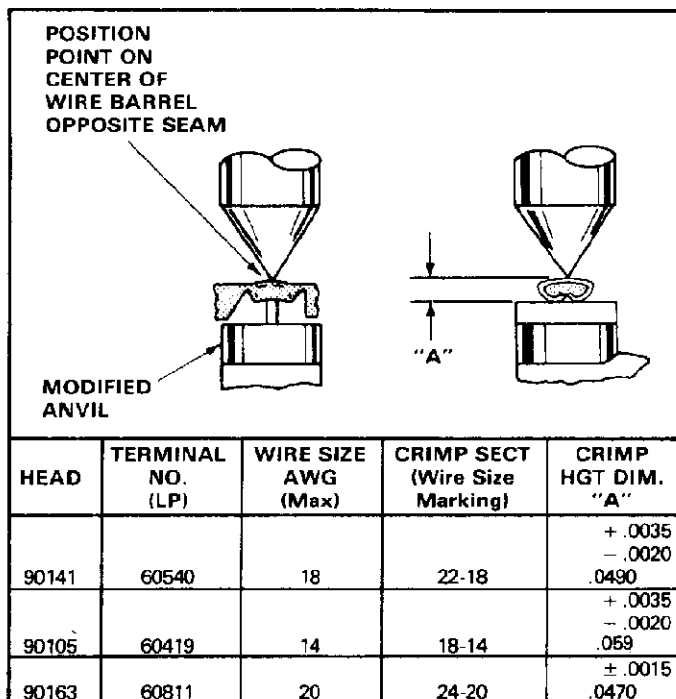

Fig. II-2
This inspection incorporates the use of a micrometer with a modified anvil as shown in Figure II-2. We recommend the modified micrometer (Crimp Height Comparator RS-1019-5L) which can be purchased from:
1. Refer to the chart in Figure II-2, and select a terminal and a wire (maximum size) for each crimp section listed in the chart.
3. Using a crimp height comparator, measure wire barrel crimp height as shown in Figure II-2.